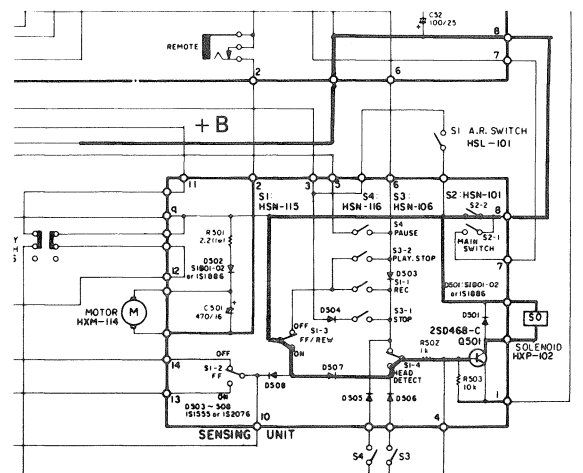

Fig. 11
- 4-2. The FF/REW switch (S1-3) goes ON. During play the head detect switch comes into contact with the diode D507 side and so Q501 goes ON. Refer to Fig. 11.